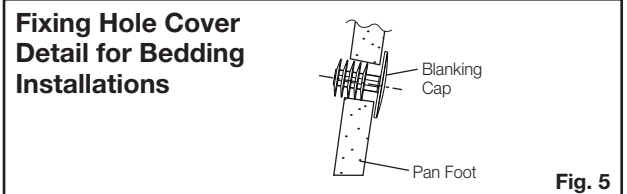

Fig. 5
- 3- Locate blanking cap into pan fixing holes as detailed in Fig. 5.